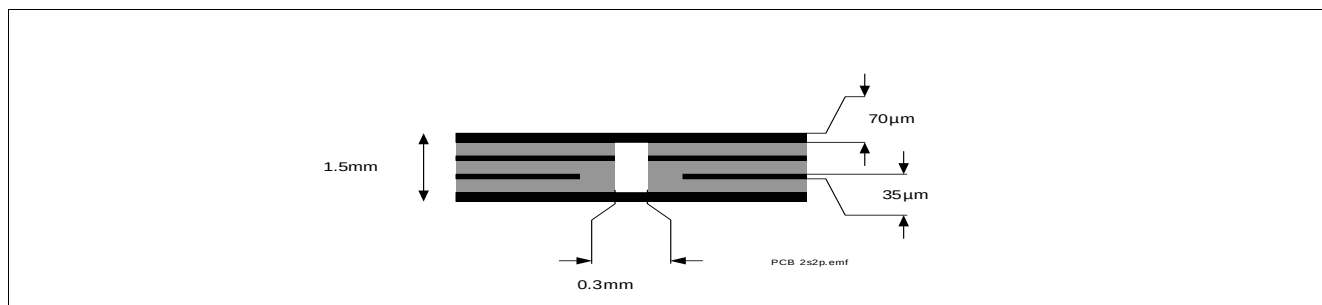
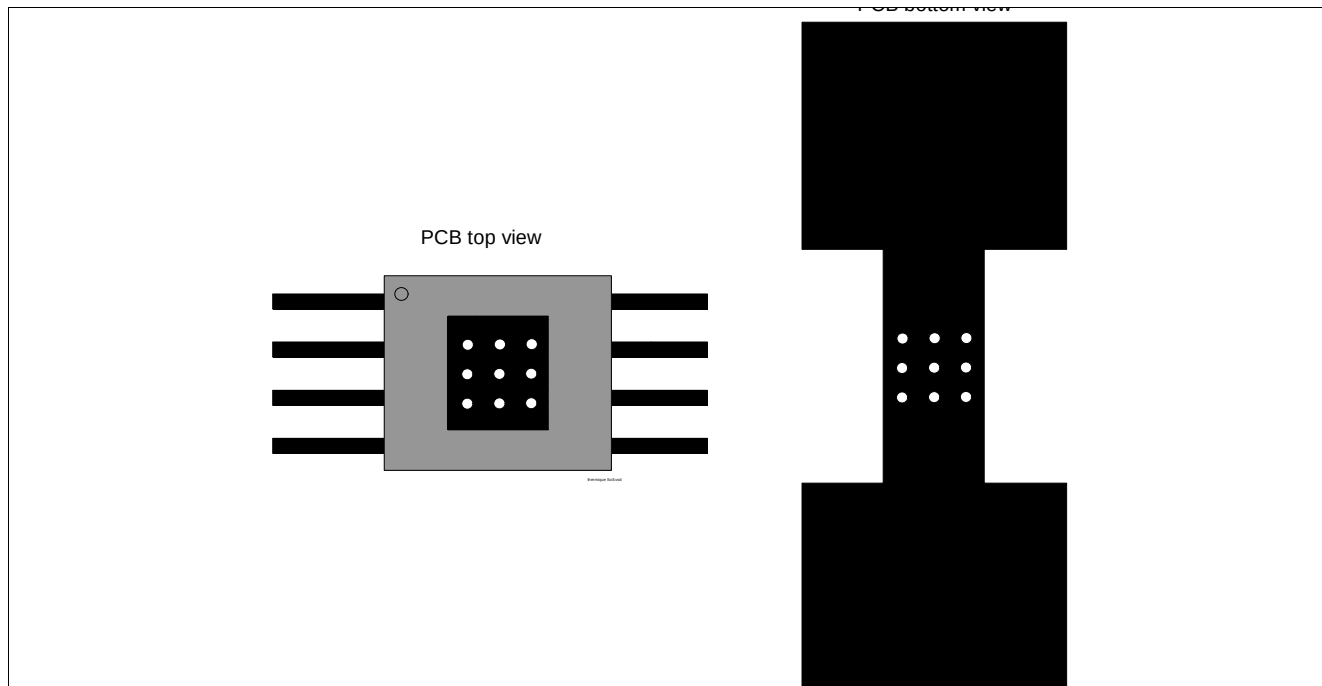

Figure 4 2s2p PCB Cross Section
Figure 5 PC Board Top and Bottom View for Thermal Simulation with 600mm² Cooling Area
2) Specified R_{thJA} value is according to JEDEC JESD51-2,-5,-7 at natural convection on FR4 2s2p board; The product (chip + package) was simulated on a 76.4 x 114.3 x 1.5 mm board with 2 inner copper layers (2 x 70 μ m Cu, 2 x 35 μ m Cu). Where applicable, a thermal via array under the exposed pad contacts the first inner copper layer. Please refer to Figure 4 and Figure 5.